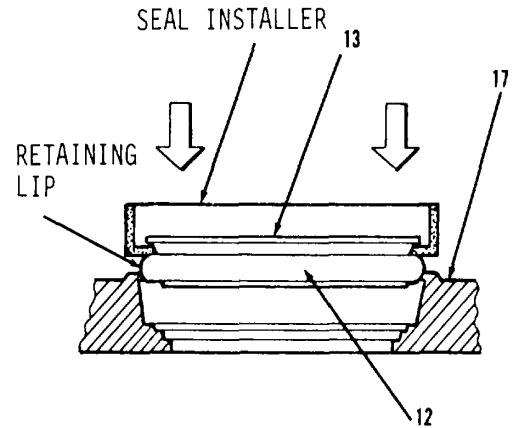
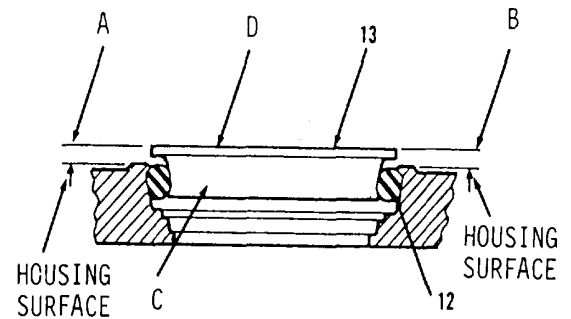

Figure 5-90.
Figure 5-91.
5. Using a seal installer, lower items 13 and 12 as an assembly into container of Trichloroethane until completely wet.
6. Position seal (13) and ring (12) in housing (17). With ring (12) still wet, use seal installer to position items 13 and 12 as an assembly squarely against housing (17, Figure 5-90).
7. Install seal (13) and ring (12). With sudden and even pressure on the seal installer push to seat ring (12) under retaining lip of housing (17).
8. Measure at points (A thru D), 90 degrees apart with depth rule gage. Check height from housing surface to top of seal (13, Figure 5-91). Differences in heights between points (A thru D) must not exceed 0.04 inch.